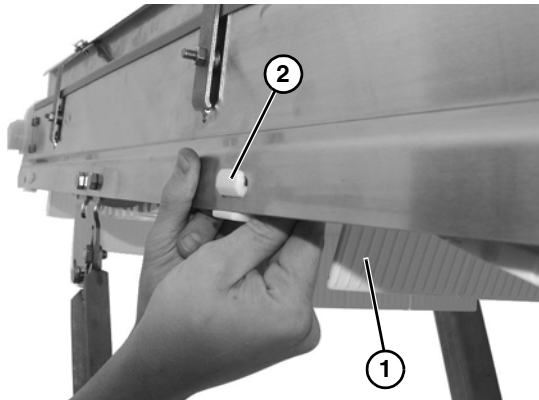

Figure 19
2. Install belt (Figure 19, item 1) around lower frame section and above lower wear strip (Figure 19, item 2).